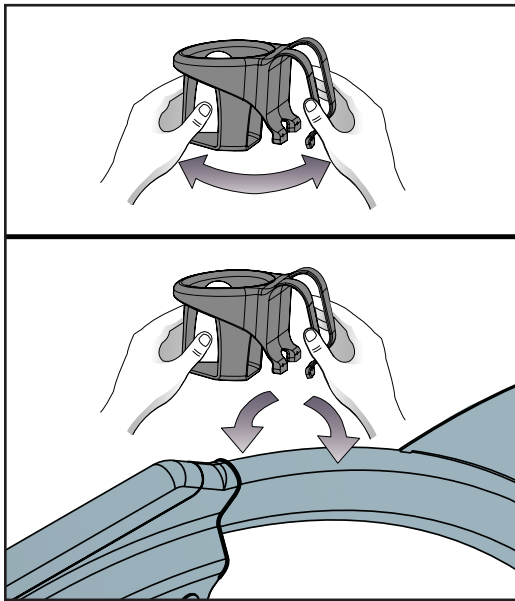

Figure 6
- A. Hold the water bottle holder (#3) with two hands and gently pull outward and continue to pull (hold open) during step 7B. See Figure 6.
- B. Place the water bottle holder (#3) over the frame with the larger side outside of the frame as shown in Figure 6.